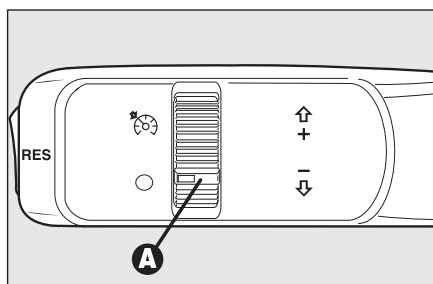

fig. 57
Turn knurled ring **A-fig. 57** to .
- ☐ turn the knurled ring **A-fig. 57** to  and press the accelerator pedal to the required speed;
- turning the knurled ring **A-fig. 57** to **O**;
In the event of device malfunction or failure, turn the knurled ring A-fig. 57 to O and contact Alfa Romeo Authorized Services after checking the protection fuse integrity.